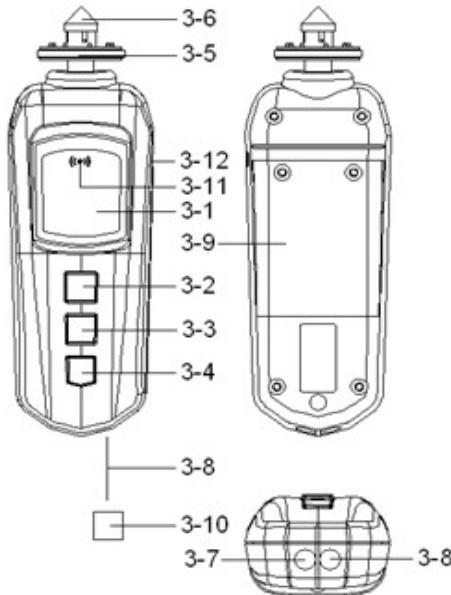

Fig. 1
- 1) Short press the " TEST(Power) Button " (3-2, Fig. 1) once, the meter will power ON,
- 2) Short Press " Function Button " (3-3, Fig. 1) momentarily in sequence, the function will change to
- e. Photo RPM measurement, display shows " RPM " symbol, at the same time the " Laser Light Beam " (3-8, Fig. 1) will be generated.
- 2) Align the " Laser Light Beam " (3-8, Fig. 1) with the applied target. Verify that the " Monitor Indicator " (3-11, Fig. 1) lights when the target pass through the light beam.
- 2) Lightly pressing the " RPM Adapter " (3-6, Fig. 1) against the center hole on the hole of the measured rotating axis.
- 2) Simply attaching the " Surface Speed Wheel " (3-5, Fig. 1) to the detector.reading stabilizes (approx. 2 sec.).
- a. First press and hold the " Memory Button " (3-4, Fig. 1) - To display the last value (" LA " and " the last value " will be displayed alternately).
- * To change the batteries, open the " Battery Cover " (3-9, Fig. 1).
- * Make sure the " Battery cover " (3-9, Fig 1) is secured after changing the batteries.
The instrument has RS232 PC serial interface via a 3.5 mm terminal (3-12, Fig. 1).